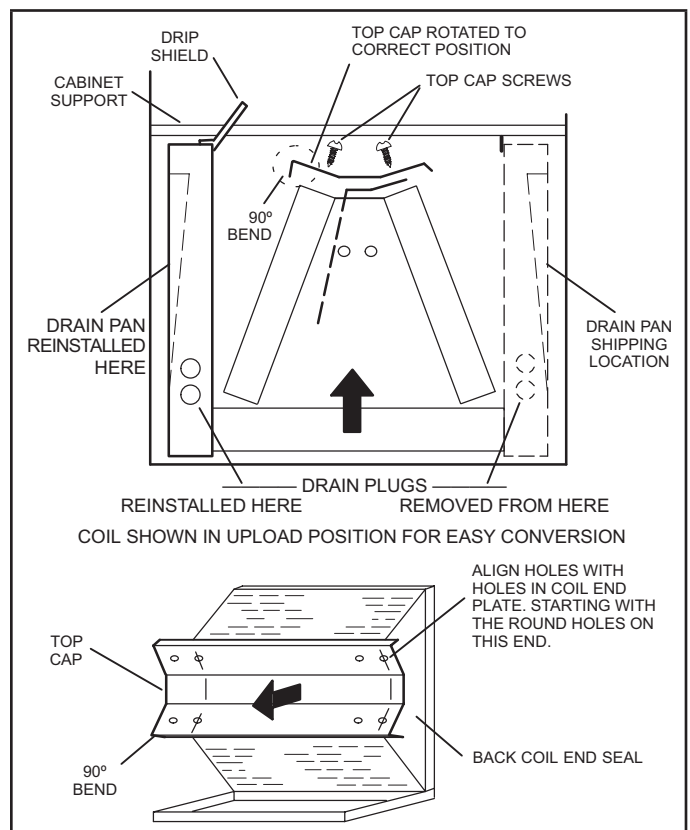

FIGURE 4. Field Modification for Left-Hand Discharge
- 5 - Remove screws from top cap. Remove horizontal drip shield screw located in the center of the back coil end seal as illustrated in figure 4 on page 5.
- 8 - Rotate top cap 180° front-to-back and align with unused screw holes. Holes must align with front and back coil end plates. The top cap has a 45° bend on one side and a 90° bend on the other. **The 90° bend must be on the same side as the horizontal drain pan** as illustrated in figure 4 on page 5.
- 9 - From the upflow position, flip cabinet 90° to the left and set into place. Replace blower assembly. Secure coil in place by bending down the tab on the cabinet support rail as illustrated in figures 4 and 5.